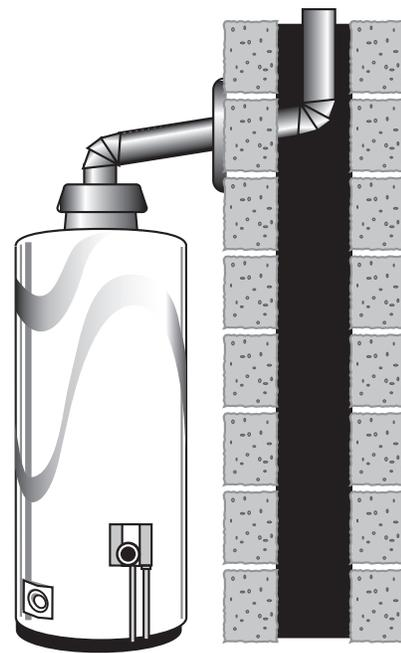

Fig. F-7: Conventional gas water heater
- **Conventional.** Conventional water heaters are vented into a chimney (see Figure F-7).